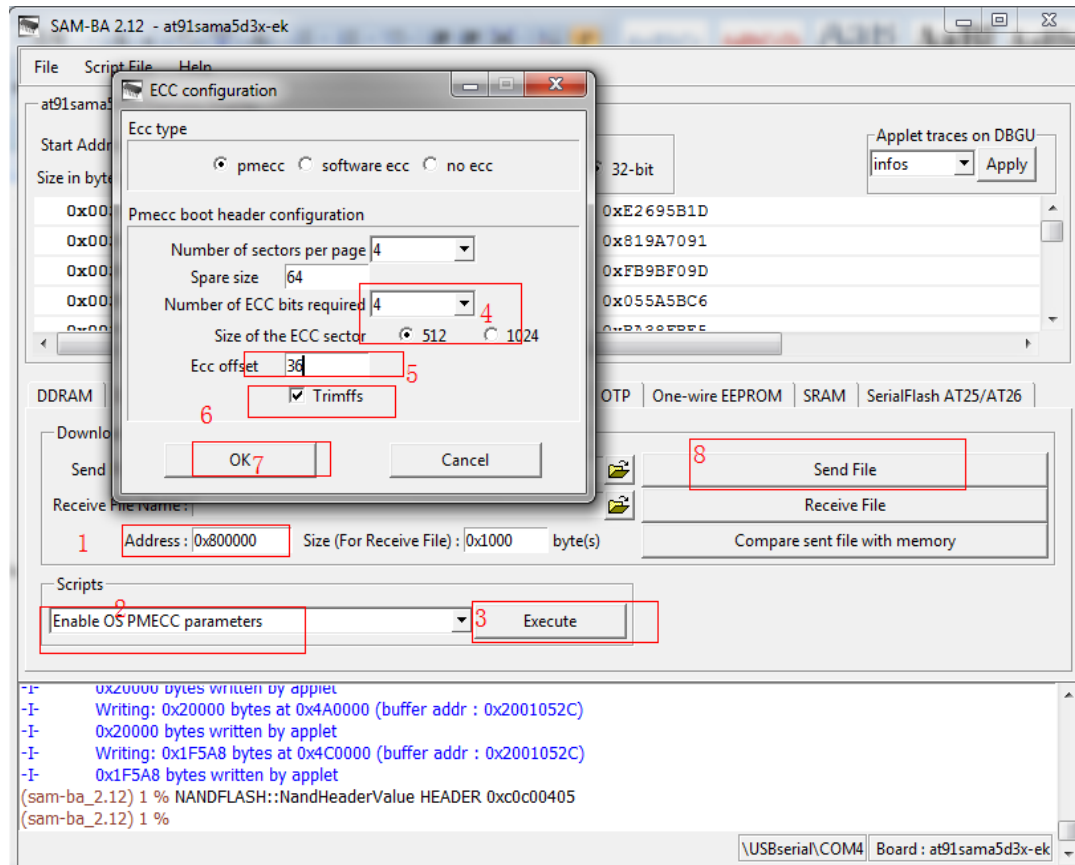

Figure 3-17
- ⑨ Download [rootfs. ubi] to address: 0x80000. Refer to figure 3-17 (Note: Select Enable OS PMECC parameters, and click “Execute” to select Trimfst.):